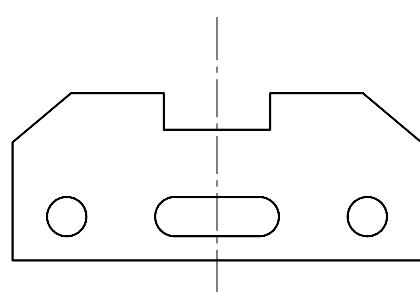

Figure 11-21 Sketch after applying all constraints
11. Choose the **Hide All** button from the **Parametric** tab of the **Ribbon** to hide the display of all constraint bars and save the drawing. The sketch after applying the horizontal constraint is shown in Figure 11-21.